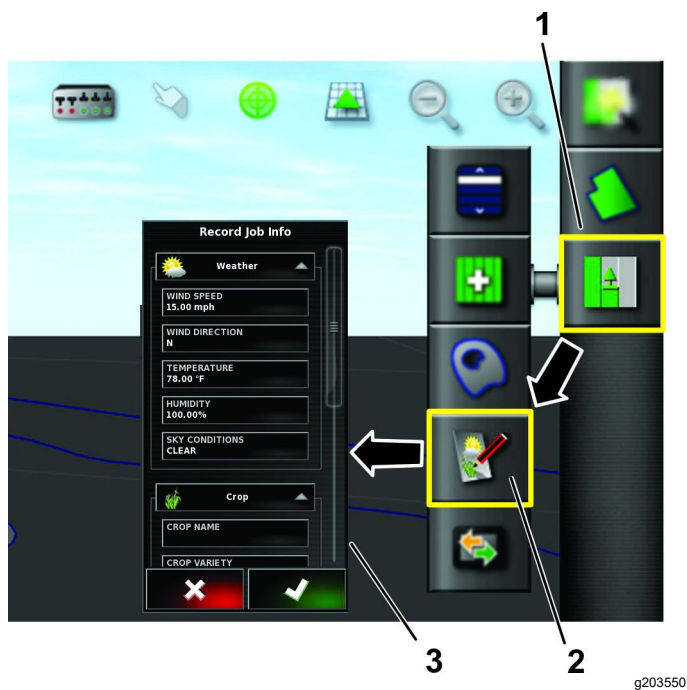

Figure 24
2. Press the job icon (Figure 24).
3. Press the record-job information icon (Figure 24).